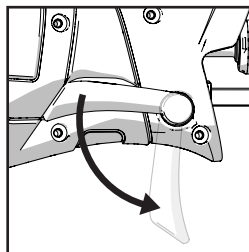

Fig. 4
- Release the contact plate locking lever. **(Fig. 4)**